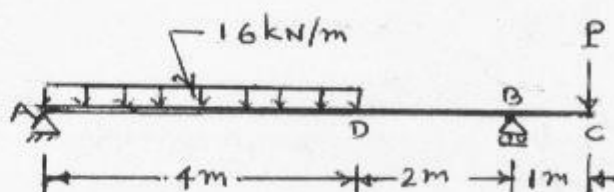

fig 9 Q 4(b) 1st Alt.
Q.4 (b) Determine load P such that the reactions at A & B are equal for the beam shown in **fig. 9**. 02